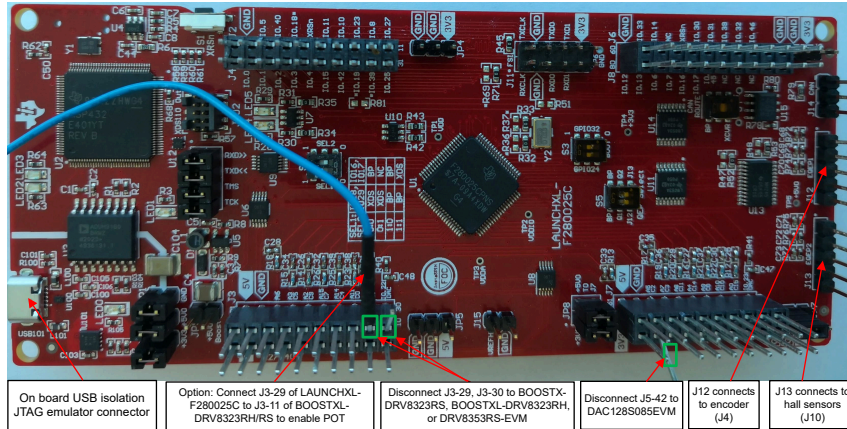

Figure 2-5. LAUNCHXL-F280025C Board Settings For Connecting BOOSTXL-DRV Board
- Make the J3-29, and J3-30 on LAUNCHXL-F280025C disconnect to BOOSTXL-DRV8323RH as shown in Figure 2-5.
The switches and connections on LAUNCHXL-F280025C as shown in Figure 2-5 are fit for BOOSTXL-DRV8323RH, BOOSTXL-DRV8323RS, and DRV8353RS-EVM.
- Make the J3-29, and J3-30 on **LAUNCHXL-F280025C** disconnect to **BOOSTXL-DRV8323RS** as shown in **Figure 2-5**.
- Make the J1-17 (IDRIVE), and J1-19 (VDS) on DRV8353RS-EVM disconnect to LAUNCHXL-F280025C as shown in Figure 2-5.